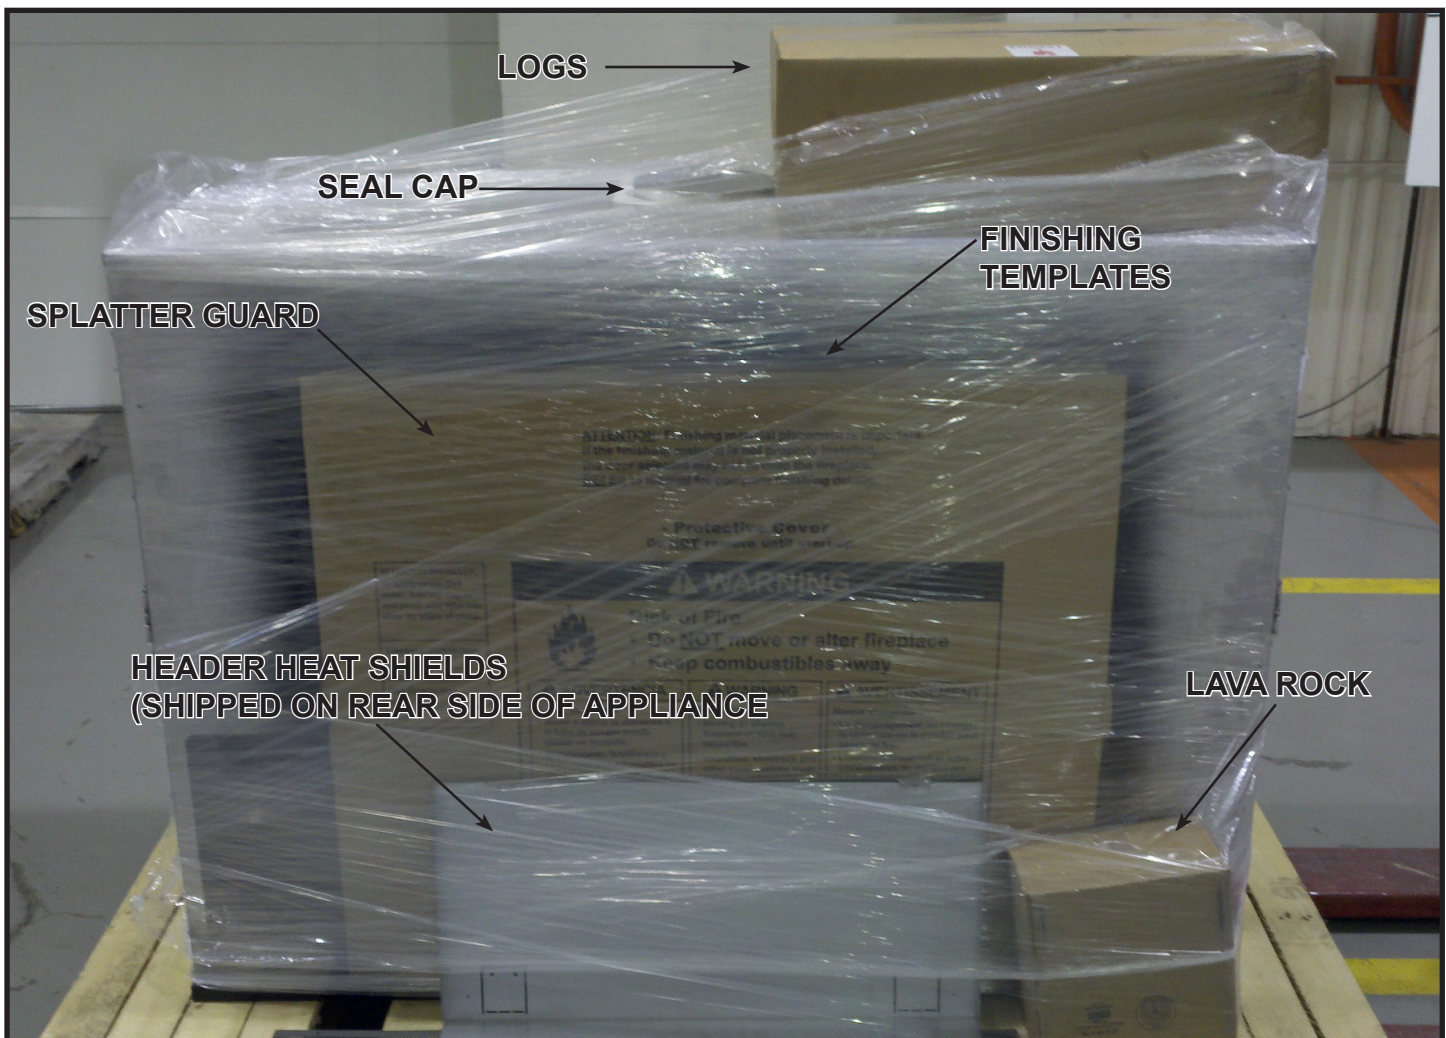

Figure 6.1 Shipping Location of Components
1. Remove shrink wrap from appliance. Figure 6.1 shows the shipping location of the seal cap and heat shields (Section 6), splatter guard and finishing templates (Section 10), and the logs and Lava Rock (Section 11).
- Position and install heat shields by securing two screws in each heat shield. See Figure 6.1 for shipping location of heat shields. The heat shield screws can be found pre-installed on the top of the appliance.